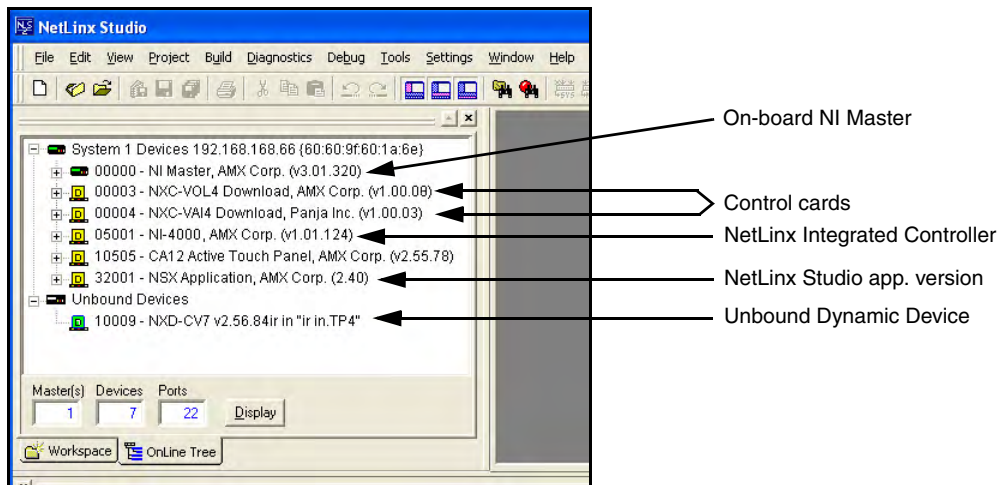

FIG. 26 Sample NetLinx Workspace window (showing OnLine Tree tab)
3. After the Communication Verification dialog window indicates active communication between the PC and the Master, verify the NetLinx Master (**00000 NI Master**) appears within the **OnLine Tree** tab of the Workspace window (FIG. 26). *The default NI Master value is zero (00000) and cannot be changed.*